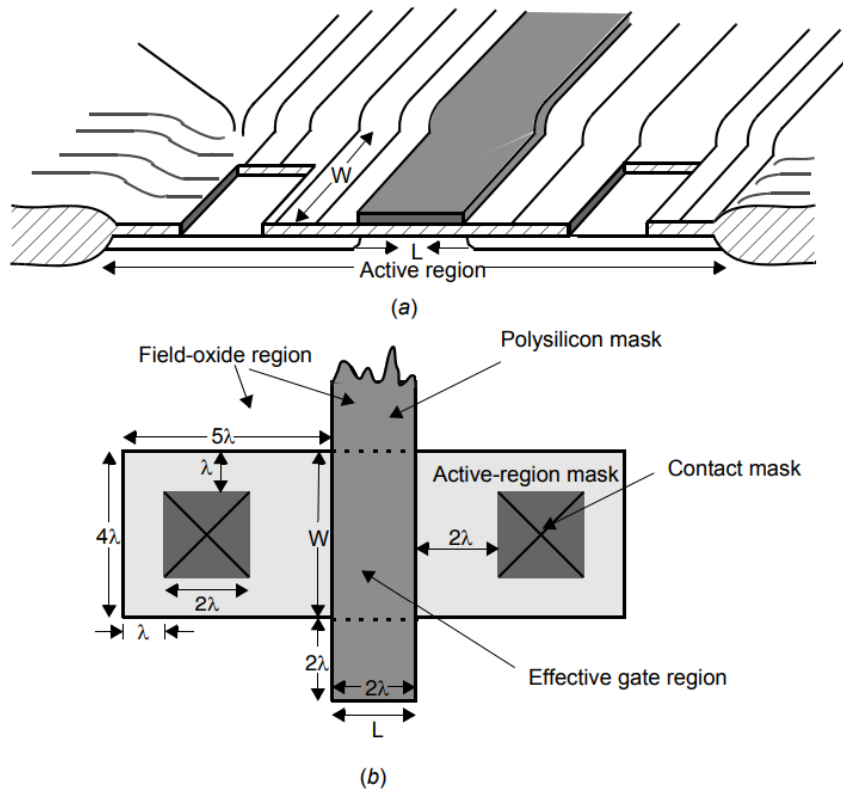

Figure 2: (a) A simplified view of a partially finished transistor and (b) the corresponding layout of the active, polysilicon, and contact masks.
j) Consider the layout in Figure 2 in CJM and an implementation in the $0.8\mu\text{m}$ process from Table 1.5 in CJM for your calculations, and Let C_{js} have a value of nF in your expression. Find an expression for the smallsignal capacitance between the source and bulk nodes.